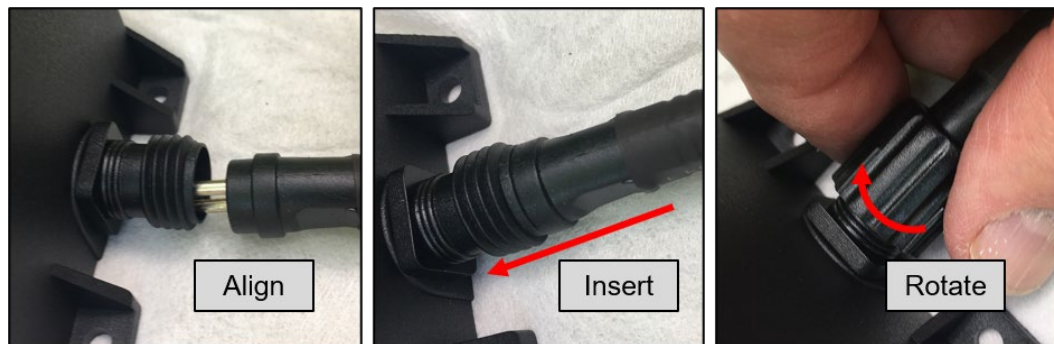

Figure 20 Connect Power Supply
- a. Align the grill plug with the power supply holes (Figure 20 left)
- b. Insert the plug until it is fully seated (Figure 20 center)